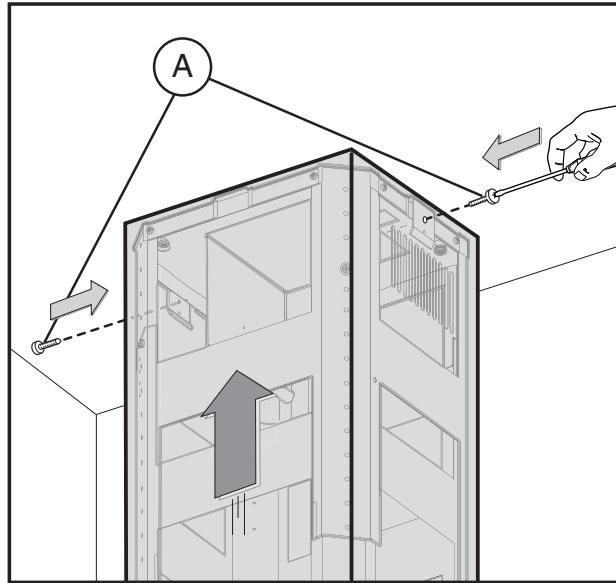

Fig.7
- Take the upper chimney piece and fix it to the structure using the 2 screws **A** (**Fig.7**).